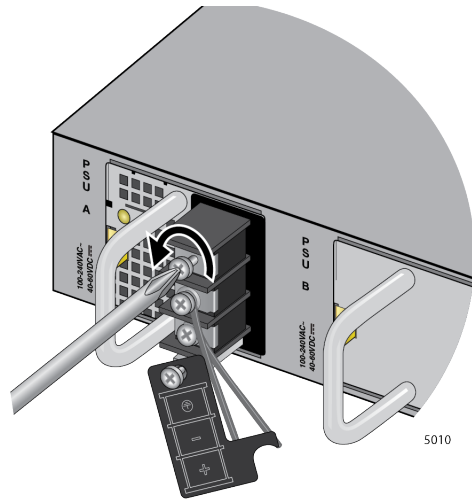

Figure 50. Loosening the Screw for the Negative (+)
- Loosen the top screw for the positive (+) with a Phillips-head screwdriver. Refer to Figure 50.